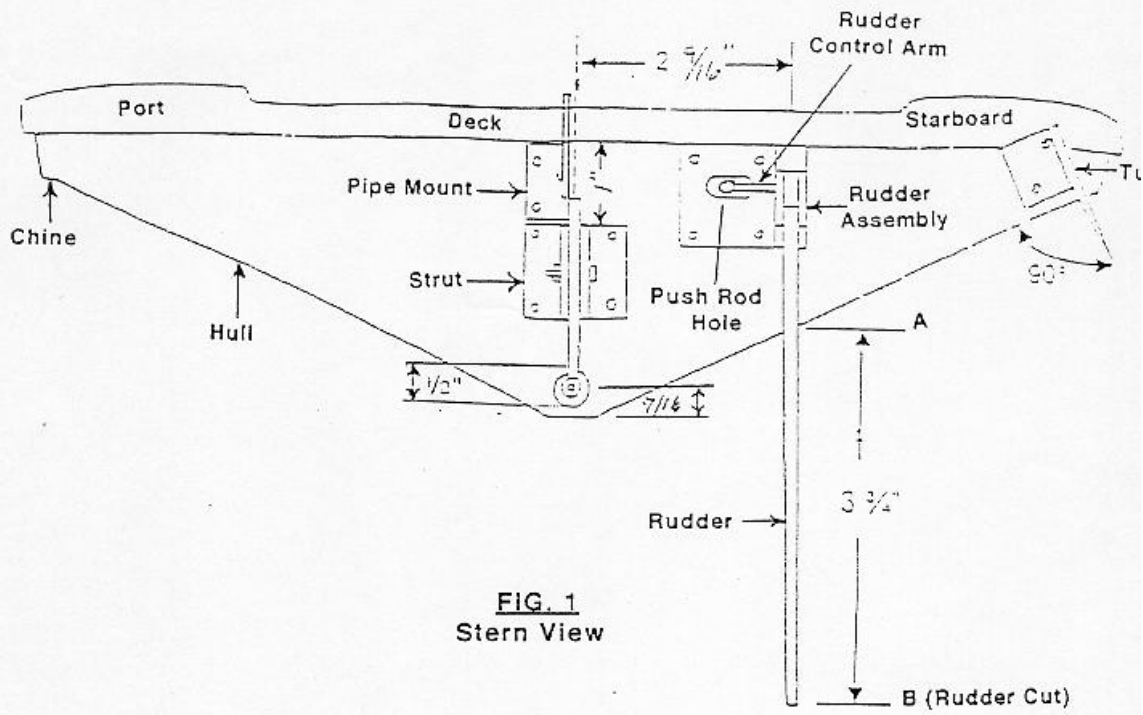
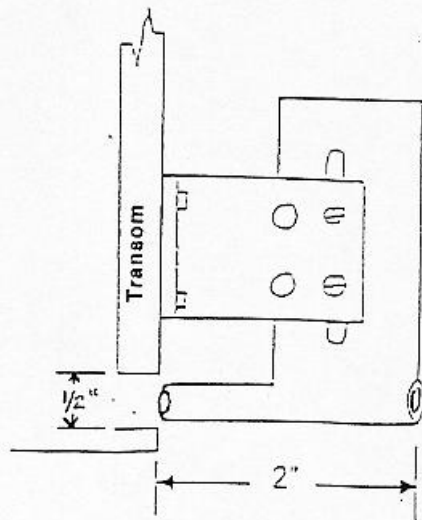

FIG. 1
FIG. 2
1. Place the hull on a work-cradle (1 1.4) to view the stern; draw a vertical centerline on the transom as shown on Figure 1. Mark a point 7/16-inch up from the bottom Vee and drill a 1/2-inch hole at this point thru the transom. (Note the drilled hole should just clear the fiberglass floor on the inside hull.)
2. The Strut Assembly package (2b) includes the strut with adjustment slot, two L-mounting brackets, plus mounting hardware. Refer to Fig. 1, Fig. 2 & Pic. #4 and assemble the strut snugly between the two L-brackets to allow up & down slot movement; note that the L-brackets must be evenly aligned on the bottom. Position this assembly on the transom 1 3/4 inch below the deck as shown on Fig.1. The strut's rear opening should roughly line-up with the 1/2-inch transom hole and be 2 inches away from the transom as shown in Fig. 2.). Mark the 4 L-bracket mounting holes and drill thru the transom with a 5/32 bit. Mount the assembly with the supplied cap screws & locknuts. (Use silicone sealer in these and all later mounting holes to reduce water entry.)
3. Refer to Fig. 2 and move the strut up or down, via the slot, to line-up with the 1/2-inch transom hole. Secure the strut using the cap screws & locknuts included in the package
1. Use the centerline on the transom and measure 2-9/16 inches to the starboard (right). 3/16 down from the deck lip. to Fig. 1 & Pic. #4 and place the rudder assembly (2c) accordingly on the transom Mark the bracket's 4 mounting holes and a center hole in the bracket slot used for the rudder's push rod. Drill thru the transom the 4 bracket holes with a 11/64 bit and use a 1/4-inch bit for the push rod hole. Fasten the rudder bracket to the transom with the Four 8/32 cap screws & locknuts included in the rudder package.
2. Refer to Fig. 1 again and mark the rudder at the point where it intersects the hull (Point A) Placing a straight edge out horizontally at Point A, measure down 4 inches and mark the rudder again (Point B). Cut the rudder off at Point B for optimum boat control.
2. Refer to Fig. 1 & Pic. #4 and set the L-bracket on the transom directly above the strut's left-mounting bracket. If you are using a wrap to center pipe. If you are using a 100 degree pipe mount the bracket where it will not put any stress on the pipe. (The L-bracket's bar should face aft & up.) Mark the bracket's 2 mounting holes and drill thru the transom using a 9/64 bit. Fasten the L-bracket to the transom with the cap screws & locknuts supplied in the pipe mount package.
- b. Interconnect the starboard side water jacket fitting to the water pick-up fitting located top-aft on the boat rudder. Again use the excess large fuel line for this connection but route the line thru the pre-drilled 1/4-inch hole in the transom as shown in Fig. 1. Inside the boat cockpit dress this line under the starboard-side decking to maintain a good appearance; discard any remaining large line.